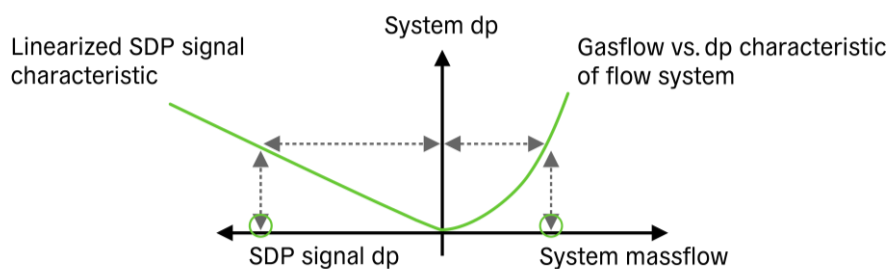

Figure 2. During the design-in process of the SDP sensor for gasflow measurement, the SDP signal is correlated to the massflow through the mainpass.
6. Correlate the gas massflow through the mainpass with the SDP sensor signal (**Figure 2**).